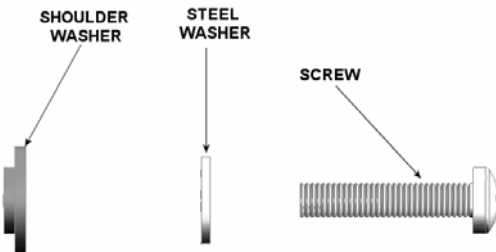
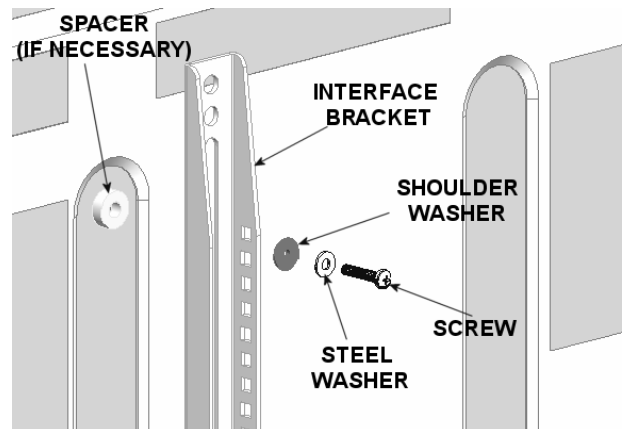

Figure 4. Attachment Parts
Figure 5. Attachment
- Secure the left and right factory assembled interface bracket assemblies (20) to the display. Select the mounting hardware that fits your application. Read the following list and refer to Figure 4 and Figure 5.
- Use M6 screws (70 or 80) or M8 screws (40, 50, or 60), steel washers (160), and shoulder washers (200).
- Or, use M4 screws (120, 130, or 140) or M5 screws (90, 100, or 110) steel washers (150), and shoulder washers (190).